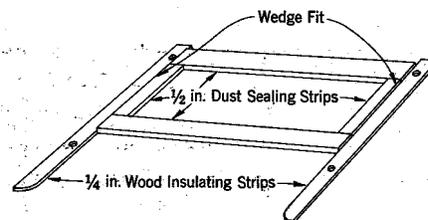

Fig. 3 — Placement of Dust Sealing Strips
3.07 Where insulating strips are used (3.04) install dust sealing strips as shown in Fig. 3.